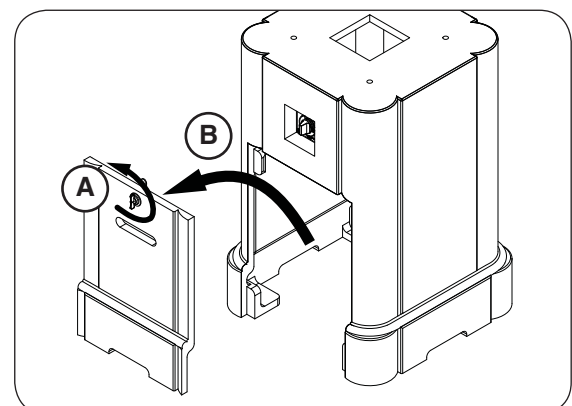

Fig. 15-3 Remove storage door (Piage)
1. Remove the storage door by first turning the door handle counter-clockwise, then carefully pulling the door outward (see Fig. 15-3). Store in a safe location.